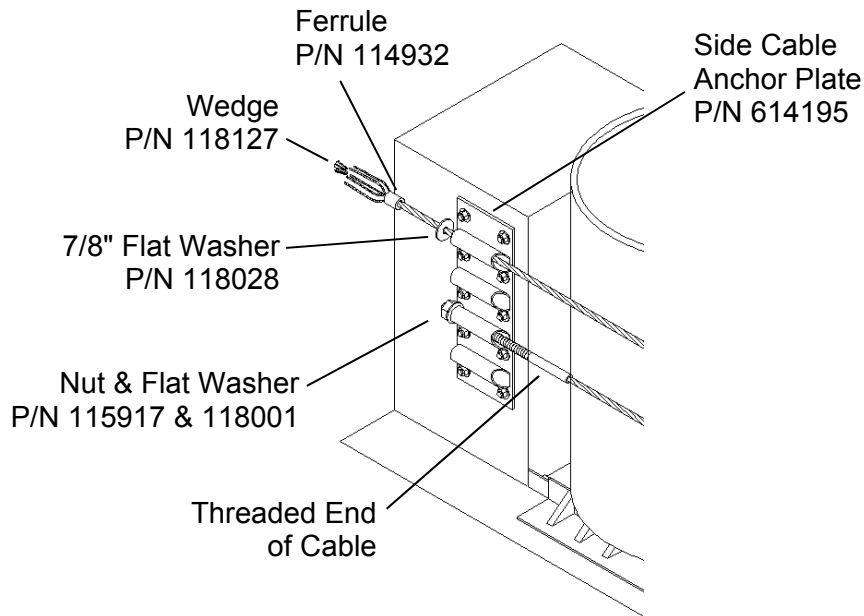

Figure 20 - Routing First Cable
- A. Slide the threaded end of a Restraining Cable through the third guide down and attach flat washer and nut as shown in Figure 20. Tighten the nut so it is flush with the end of the threaded end of cable.